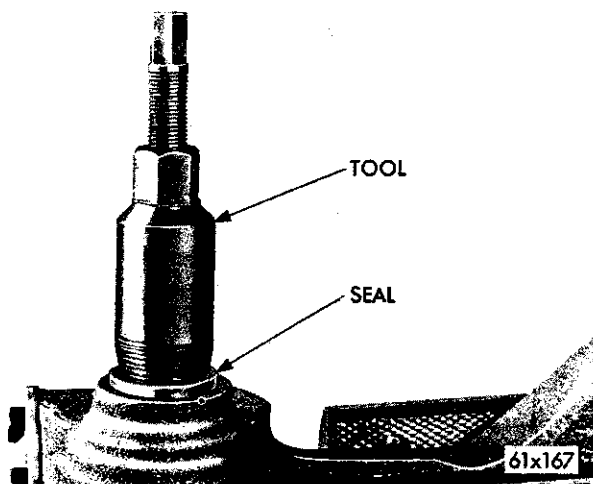

Fig. 7—Removing the Worm Shaft Oil Seal
(1) Thread Tool C-3819 far enough into the oil seal to engage the metal portion of the seal (Fig. 7). Turning the tool center screw while holding the tool